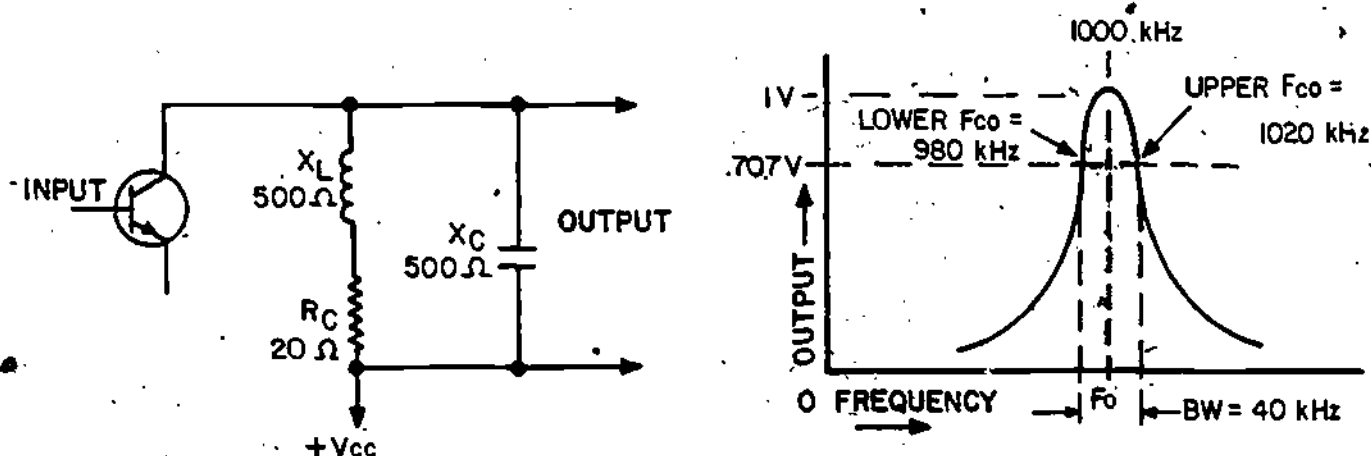
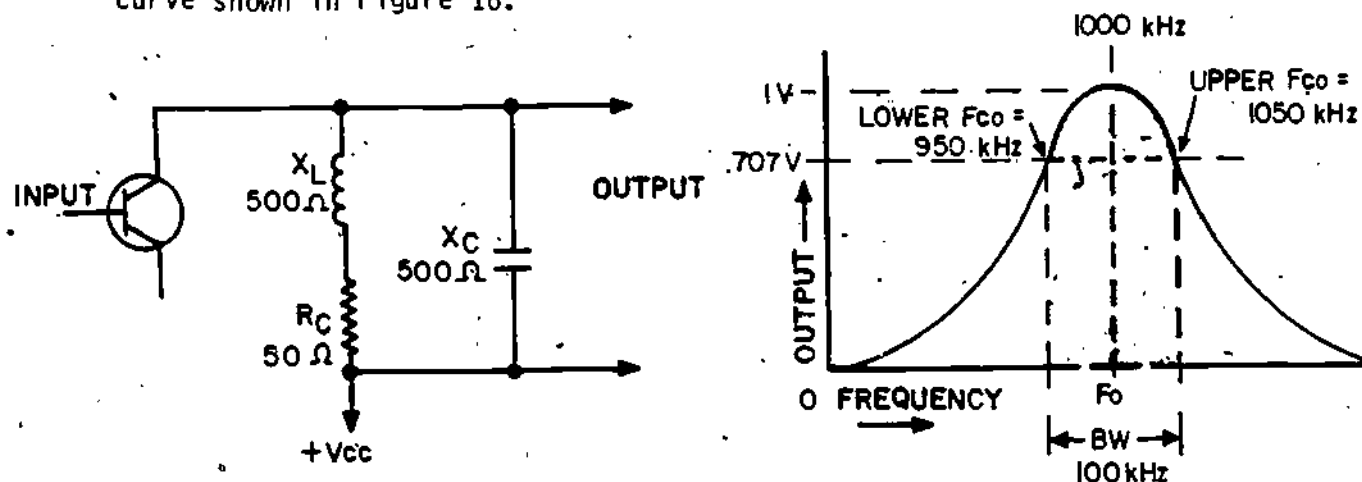

Figure 15
Figure 16
16. Figure 15 shows both a diagram of a tank circuit, and the frequency response curve for the tank.
In Figure 15, the tank has a resonant frequency (F_o) of 1000 kHz, a frequency response of 980 kHz to 1020 kHz, and a bandwidth of 40 kHz. Now you can calculate the bandwidth by plugging values into the formulas for both Q and bandwidth. From Figure 15, Q of the tank equals $\frac{X_L \text{ (or } X_C)}{R_C}$ or $\frac{500\ \text{ohms}}{20\ \text{ohms}}$, or 25. Since F_o equals 1000 kHz, the bandwidth equals $\frac{F_o}{Q_{\text{tank}}}$, or $\frac{1000\ \text{kHz}}{25}$, or 40 kHz. In Figure 15, notice that the frequency response curve at the upper and lower F_{co} points has steep sides, or skirts. This indicates that the Q of this tank produces high selectivity.
17. Now let's examine the tank circuit diagram and frequency response curve shown in Figure 16.
The only value difference on the tank diagrams between Figures 15 and 16 is that the coil resistance (R_C) is increased from 20 ohms to 50 ohms. The Q of the tank in Figure 16 now equals $\frac{500 \text{ ohms}}{50 \text{ ohms}}$, or 10. Since F_o still equals 1000 kHz, the bandwidth now equals $\frac{1000 \text{ kHz}}{10}$, or 100 kHz. You can see that Q changes as resistance changes. It is obvious from the previous examples that an increase in the resistance in series with a tank produces a decrease in Q , and also a wider bandwidth.